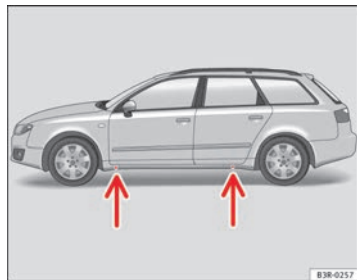

Fig. 196 Changing the wheel: The jacking points
- Position the vehicle jack under the door sill at the **jacking point** closest to the wheel being changed ⇒ **fig. 196 -arrows-**.
Recesses at the front and rear of the door sills mark the jacking points ⇒ **fig. 196 -arrows-**. There is only *one* jacking point for each wheel. Do not fit the jack anywhere else.